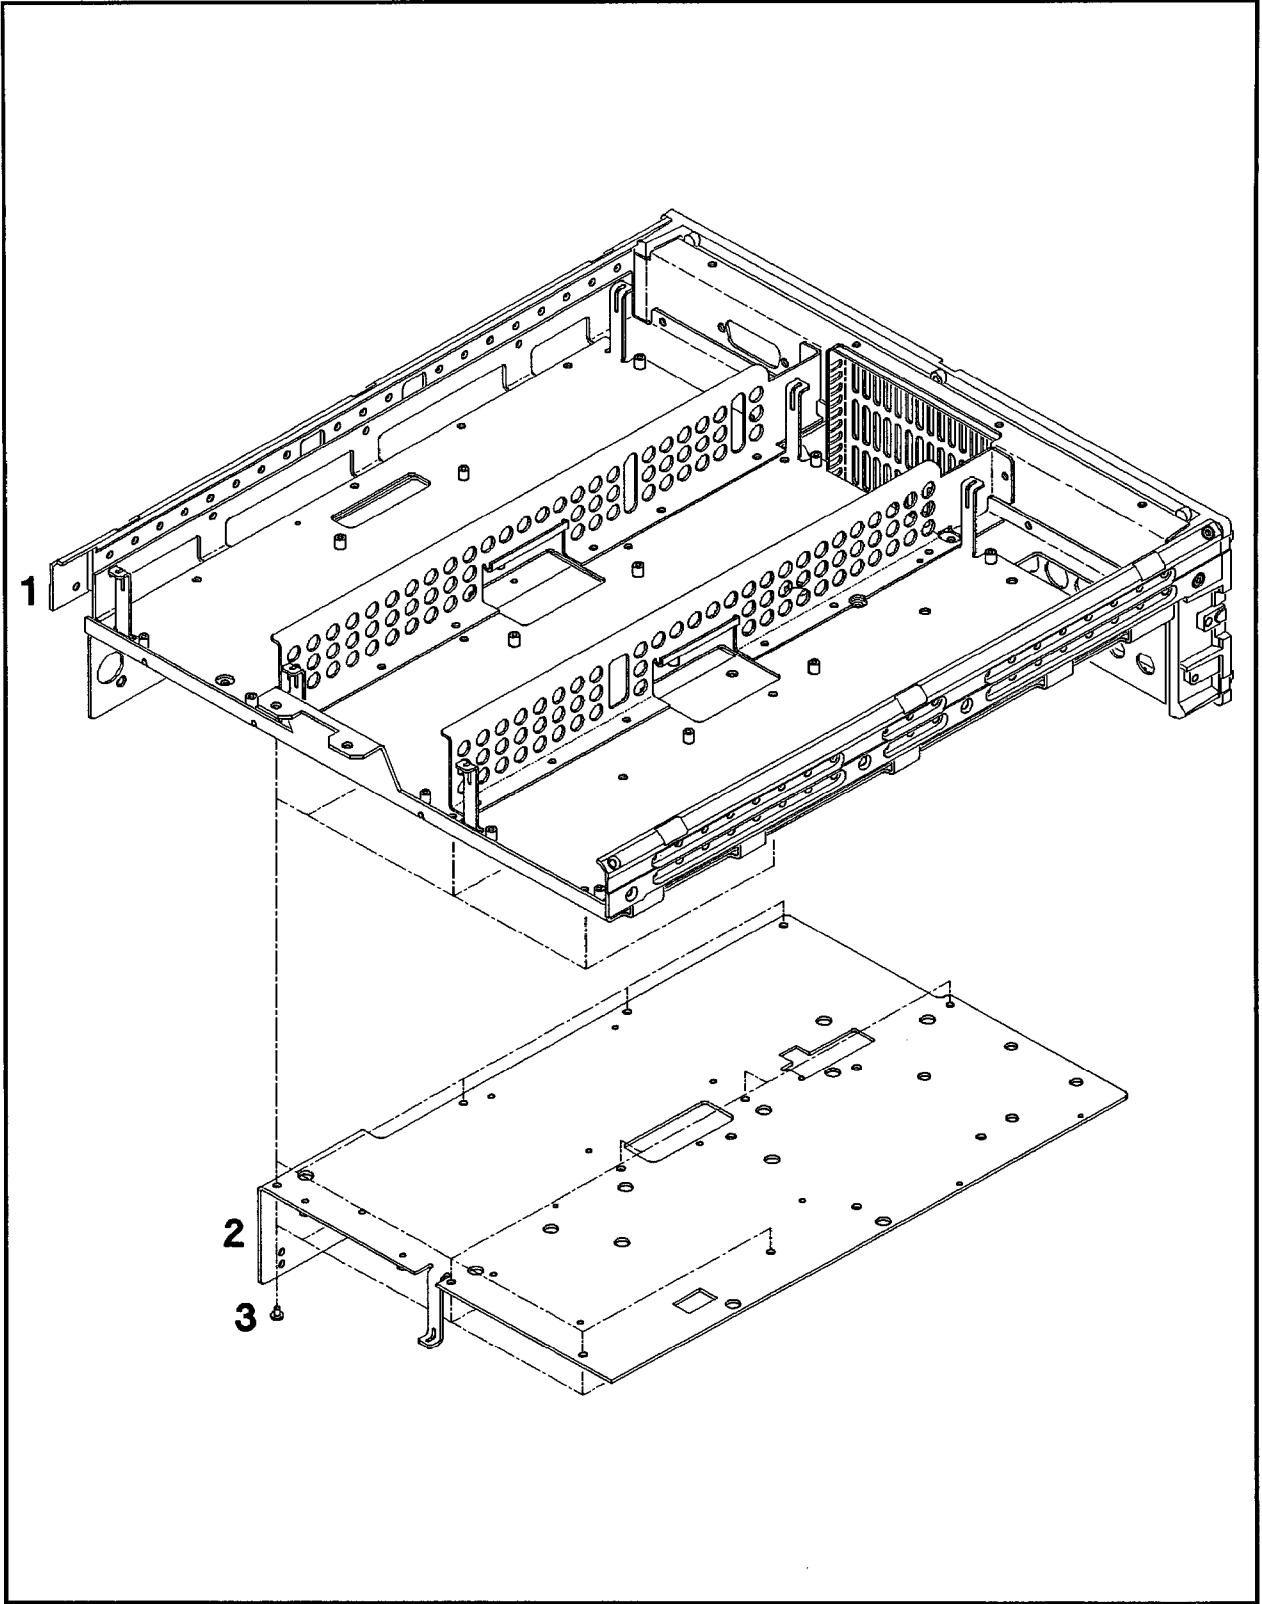

Figure 4-16. Microwave Deck Illustrated Parts Breakdown
**Table 4-18. Illustrated Replaceable Parts (Figure 4-16)**